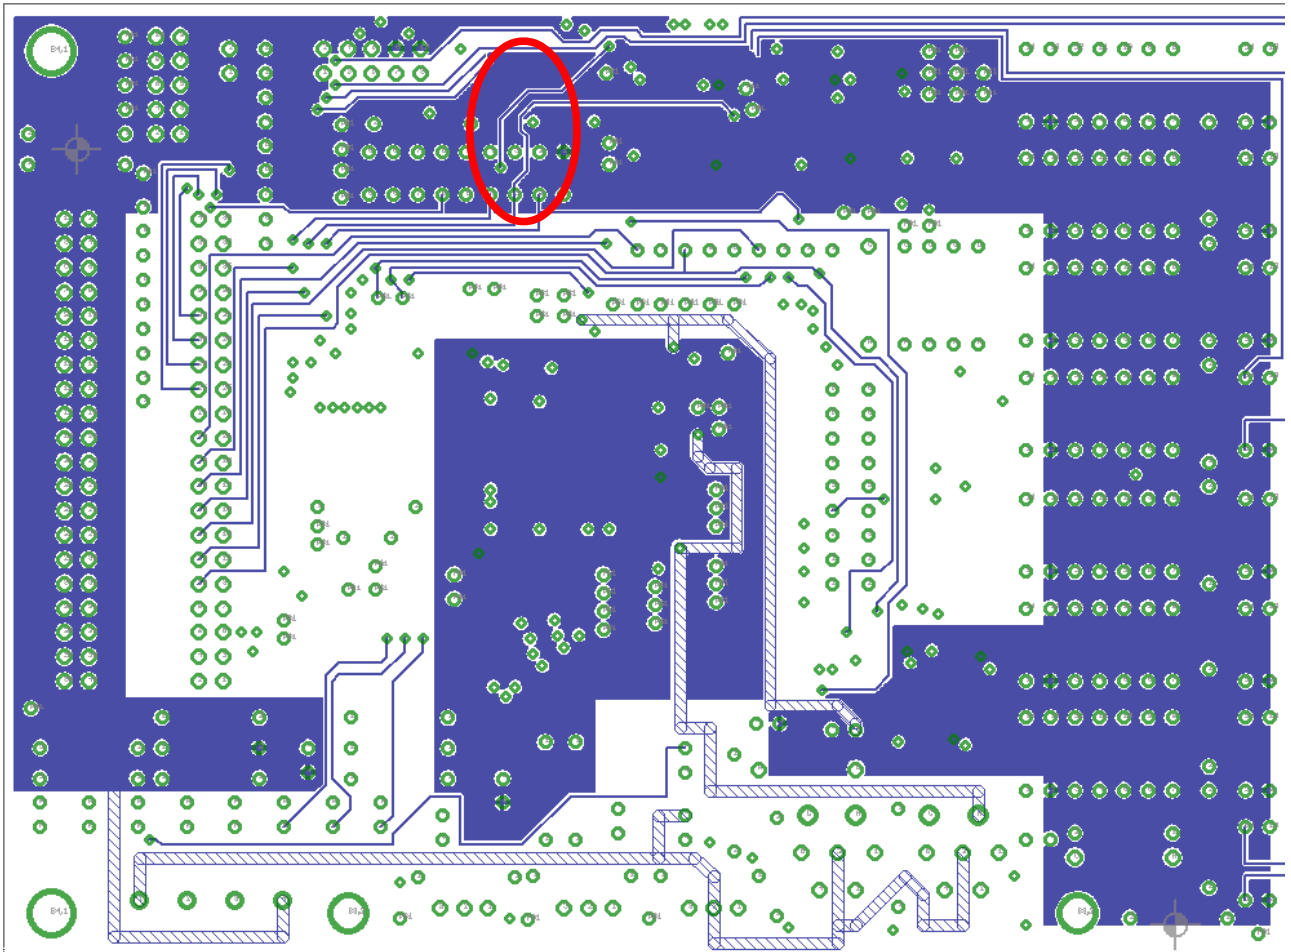

Figure 29: Bottleneck in a Polygon
4. Another critical issue are bottlenecks from one copper area to another. Figure 29 shows an example. Red marked is a very narrow pass-through of copper connecting the left and the right area. This very narrow "bridge" spoils signal integrity and may be blown when carrying high currents. Ensure integrity of polygons.